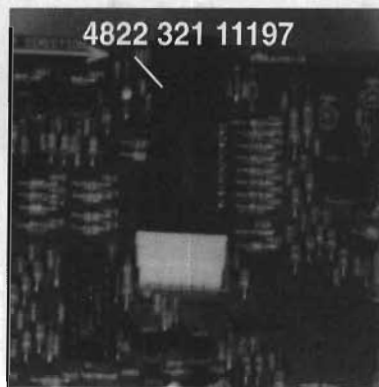

fig. 2
3. Short-circuit printed board with **brass-sheet (4822 321 11197)** plugged into the flexfoil connector (fig. 2)